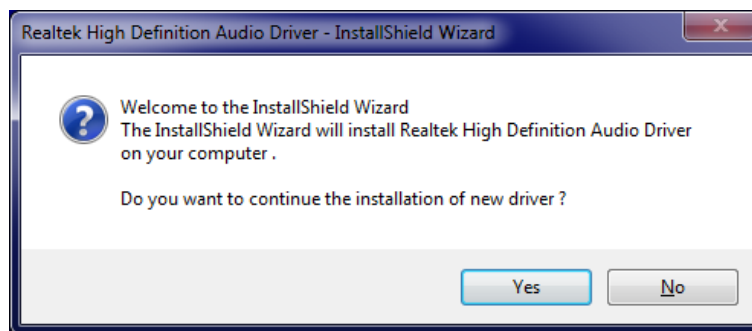

Figure 6-14: Audio Driver Welcome Screen
- Step 5:** Once initialized, the **InstallShield Wizard** welcome screen appears (**Figure 6-14**).